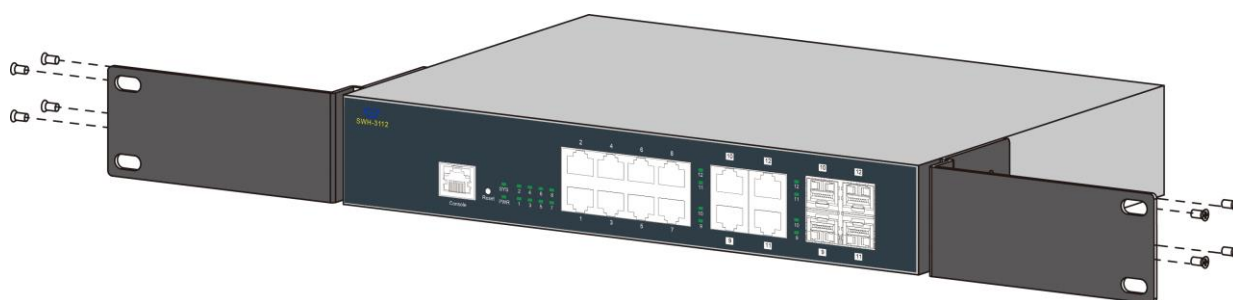

Figure 2-1. SWH-3112 Switch
Step 2. Attach the supplied rack mounting brackets to the switch (See Figure 2-1):
- Step 3.** Insert the screws provided in the rack-mount kit through each bracket and into the bracket mounting holes in the switch. Then, tighten the screws with the screwdriver to secure each bracket. (See Figure 2-1)